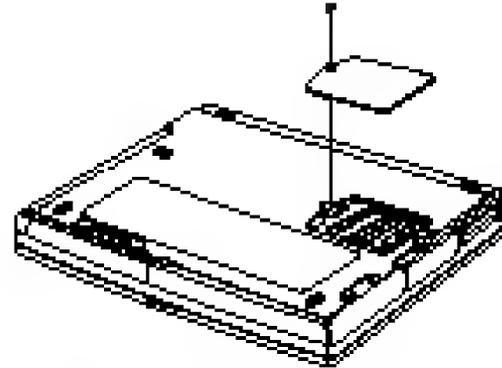

Figure 25. Removing the Memory Module Compartment Door
2. Using a screwdriver, remove the screw that holds the memory-module compartment door in place (Figure 25).